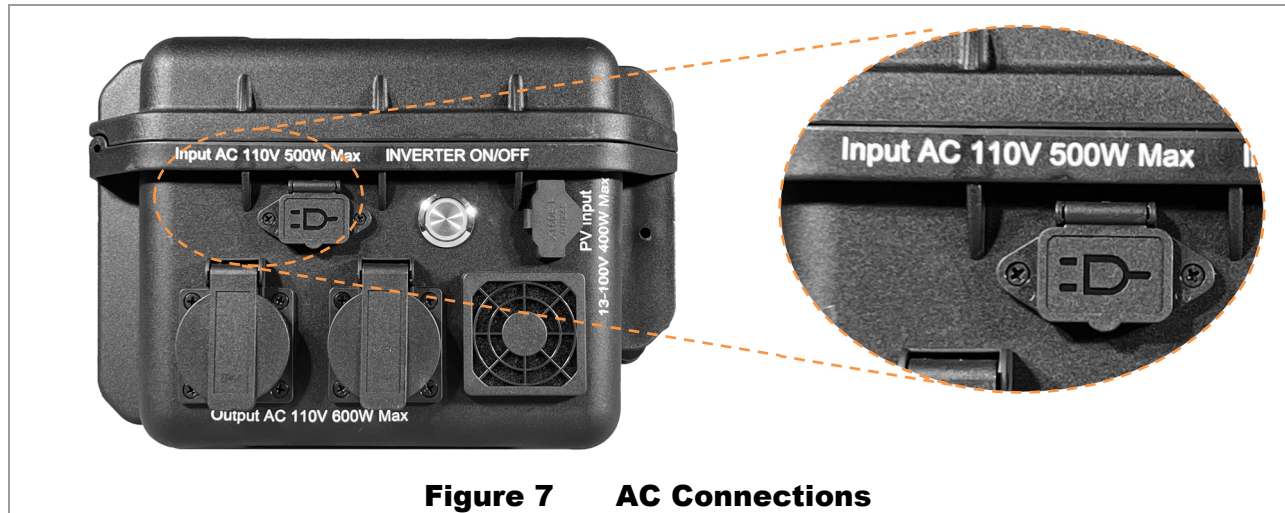

Figure 7 AC Connections
1. Connect the included AC charging cable to the SunCase 605 port labeled **INPUT AC 110V 500W MAX**. See Figure 7.